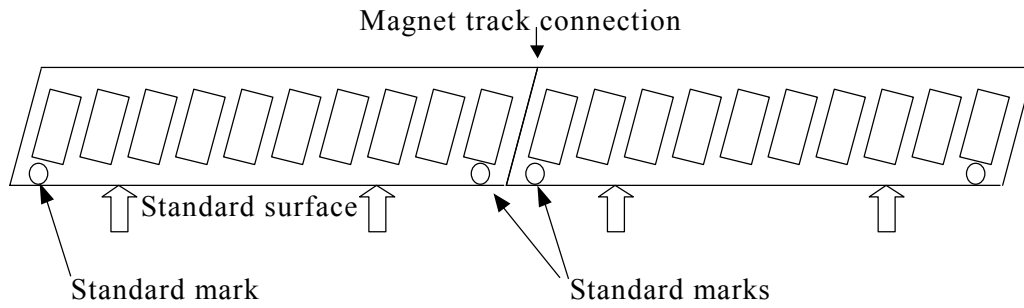

Figure 7
- (1) Remove the dummy plate used to reduce the magnetic force and the cardboard sheet from the magnet track surface.
- (2) Align the side of the magnet track with the standard marks (approx. 4-mm dia. indentations) with the reference surface of the machine base. Keep fingers clear to prevent from being jammed. (Refer to Figure7).
- (4) When joining magnet tracks together, place the second magnet track temporarily in line with and at least 30 mm apart from the first magnet track. Match the direction of the magnet tracks (standard marks: approx. 4-mm indentation). [Refer to Figure 7 in step (2)].